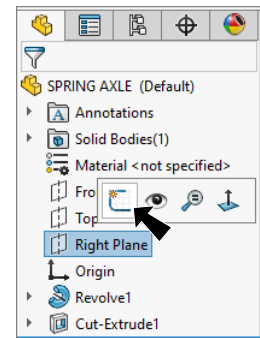

Fig. 12
Step 1. Click **Right Plane**  in the Feature Manager and click **Sketch**  on the context toolbar, **Fig. 12**.